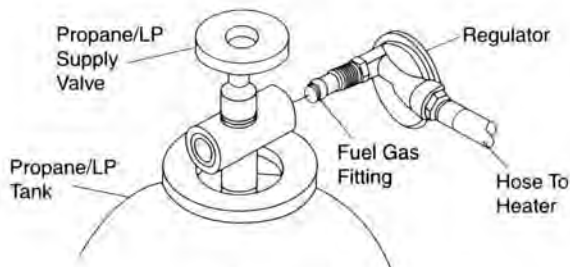

Figure 1
2. Connect fuel gas fitting hose/regulator assembly to propane LP tank(s). Turn fuel fitting counter-clockwise into threads on tank. Tighten firmly using a wrench. Models RMC-FA100DGP, RMC-FA100DGP-01, RMC-FA100C and RMC-FA100L have a hand wheel that can be used to tighten the fitting. This hand wheel can be slid off of the nut so that a wrench can also be used to tighten the fitting. **IMPORTANT:** Position regulator so that hose leaving the regulator is in a horizontal position (see Figure 1)